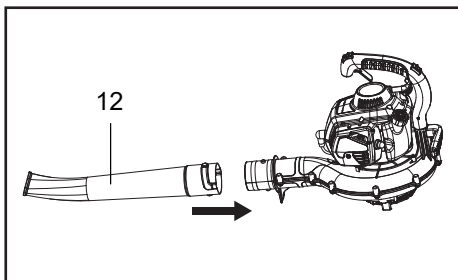
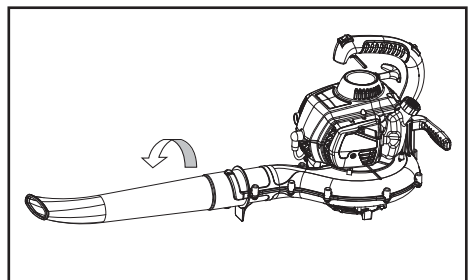

Fig . 1
Fig . 2
- Align blower tube (12) with tube interface, push them together (Fig . 1) and rotate until they lock in place (Fig . 2).